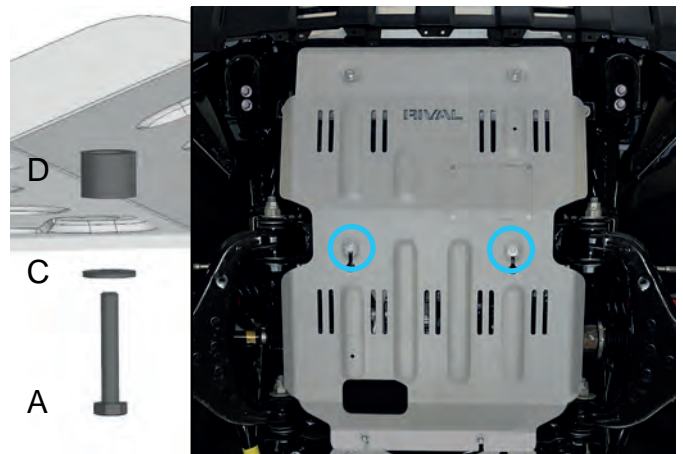

Fig. 10
10. Fix middle part of the engine skid plate using spacers 15mm (item D), bolts M8x40 (item A) and washers M8 (item C) as shown in fig.10.